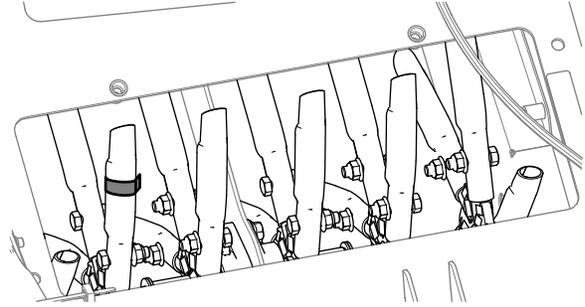

Figure 71
1. At the tine-access panel opening, inspecting the tines for wear or damage (Figure 71).